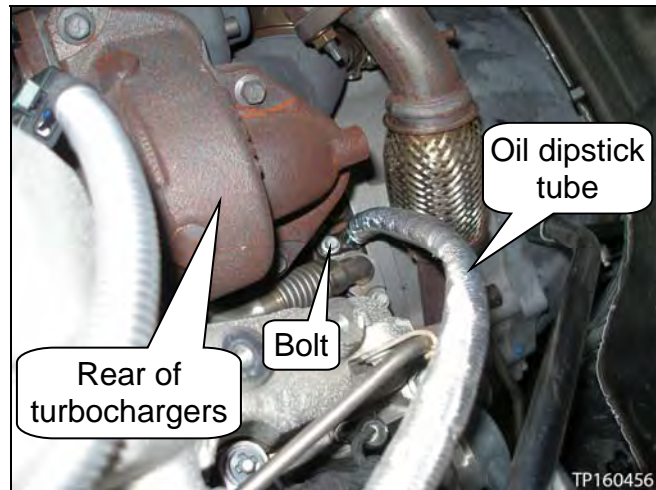

Figure 18
a. Remove the bolt where shown in Figure 18.
- Figure 18 is viewed by looking down behind the rear of the turbocharger assemblies.